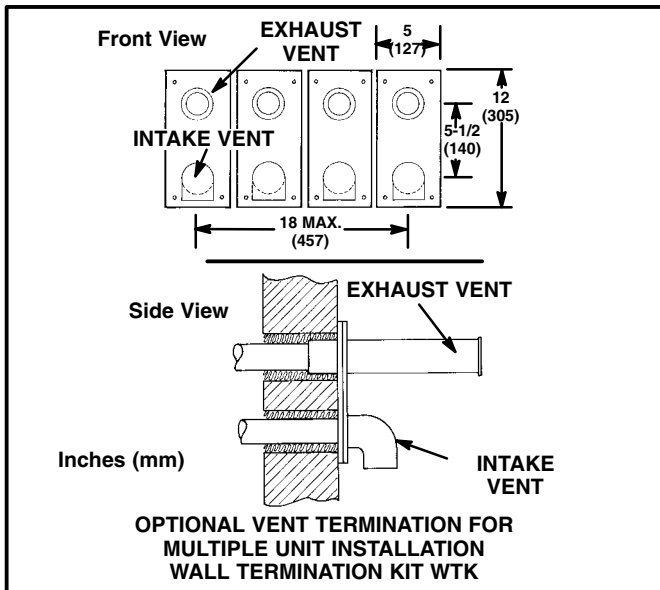

FIGURE 30
- Based on the recommendation of the manufacturer, a multiple furnace installation may use a group of up to four termination kits WTK assembled together horizontally, as shown in figure 30.